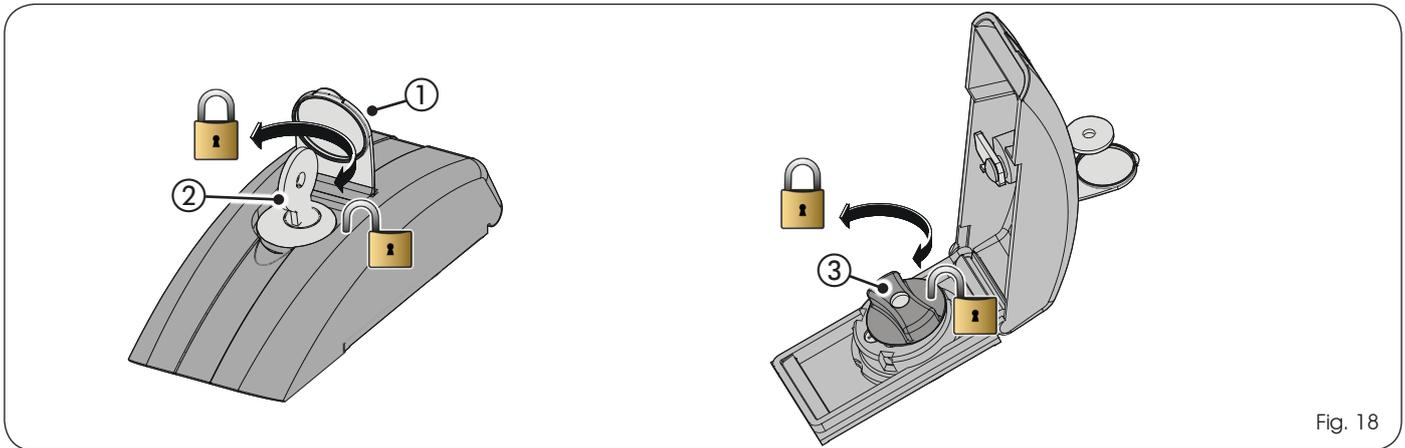

Fig. 18
1) Lift the protection lid (Fig. 18, ref. ①) and insert the key in the lock (Fig. 18, ref. ②).
2) Turn the key 90° clockwise to open the cover and lift it.
3) Turn the release knob (Fig. 18, ref. ③) anticlockwise until it stops.